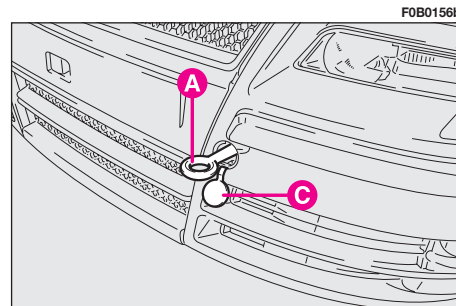
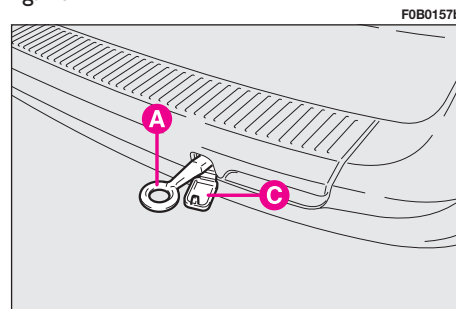

fig. 43
fig. 44
– remove cap **C** clipped on the front **fig. 43** or rear bumper **fig. 44**;